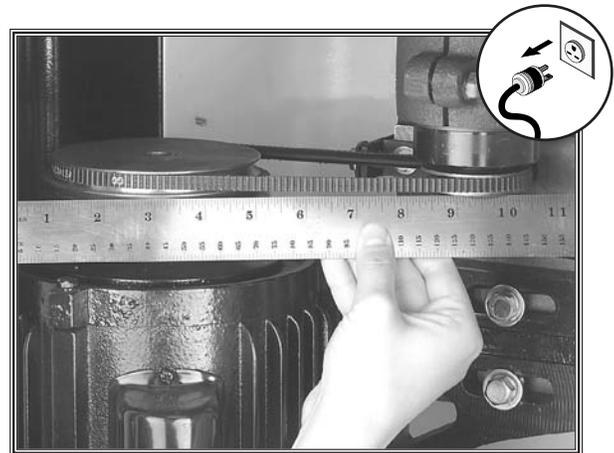

Figure 66. Checking pulley alignment.
2. Reach into the rear of the cabinet, then hold the straightedge up to the pulleys to determine if they are both aligned and parallel, as shown in **Figure 66**.